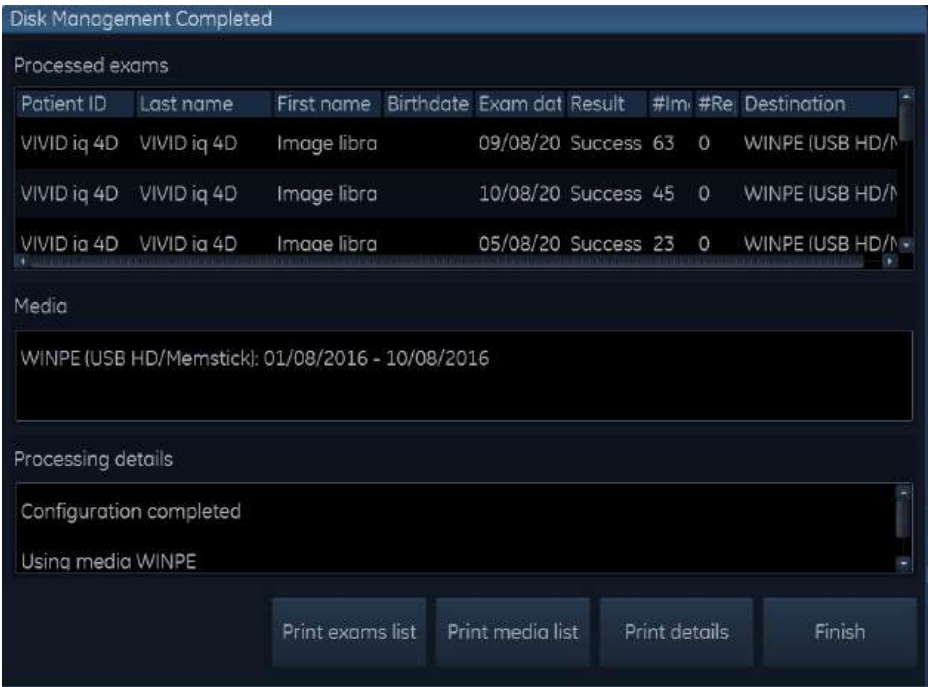

Figure 10-61. The Disk management completed window
5. When all the files are copied, the *Disk management completed* window is displayed (Figure 10-61), showing the list of processed examinations, the media used and a detailed log.